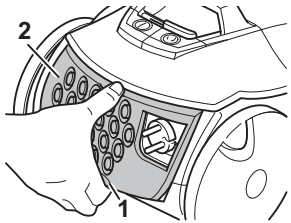

Fig. 23
2. Open the exhaust filter cover. To do this, press the release on the underside of the appliance (Fig. 23/1) and pull the exhaust filter cover up and out.